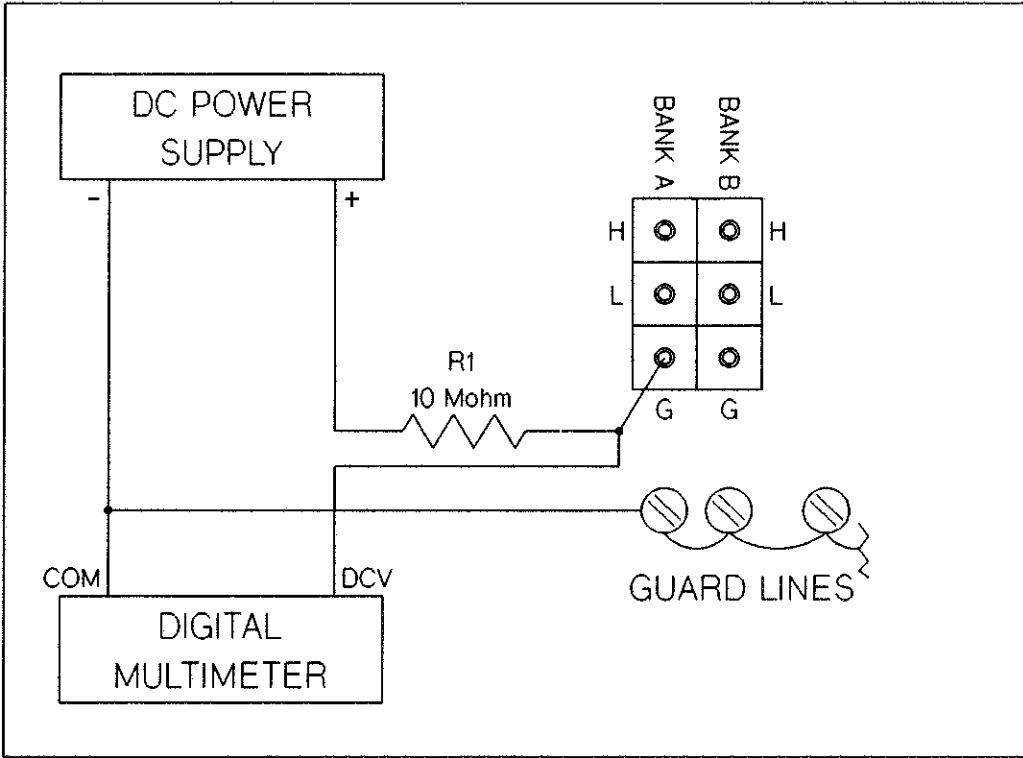

Figure 8-19 HP 44705A/H Bank A GUARD to Common DC Isolation
20. Connect the test circuit between the Bank A GUARD common test point and the shorted guard lines of the test fixture as shown in Figure 8-19.